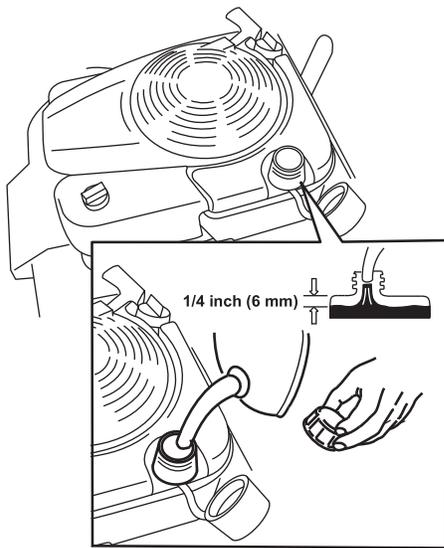

Figure 11
1. Clean around the fuel-tank cap, and remove the cap from the tank (Figure 11).
2. Fill the fuel tank, leaving at least 6 mm (1/4 inch) from the bottom of the neck empty to allow the gasoline room to expand (Figure 11).